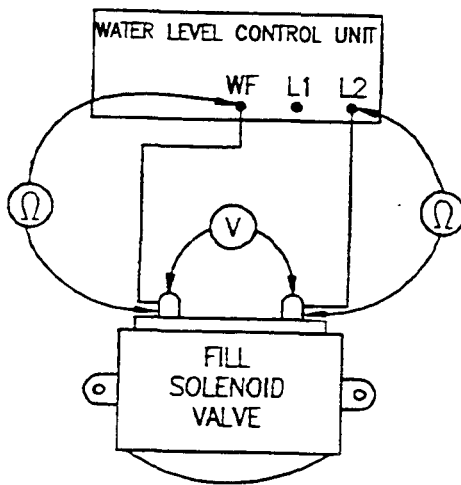

Figure 5-11. Fill Solenoid Valve
4. Refer to Figure 5-11 and check for 120 VAC across the solenoid terminals.
- a. Refer to Figure 5-11 and check the wiring between the Fill Solenoid Valve and the Water Level Control Unit